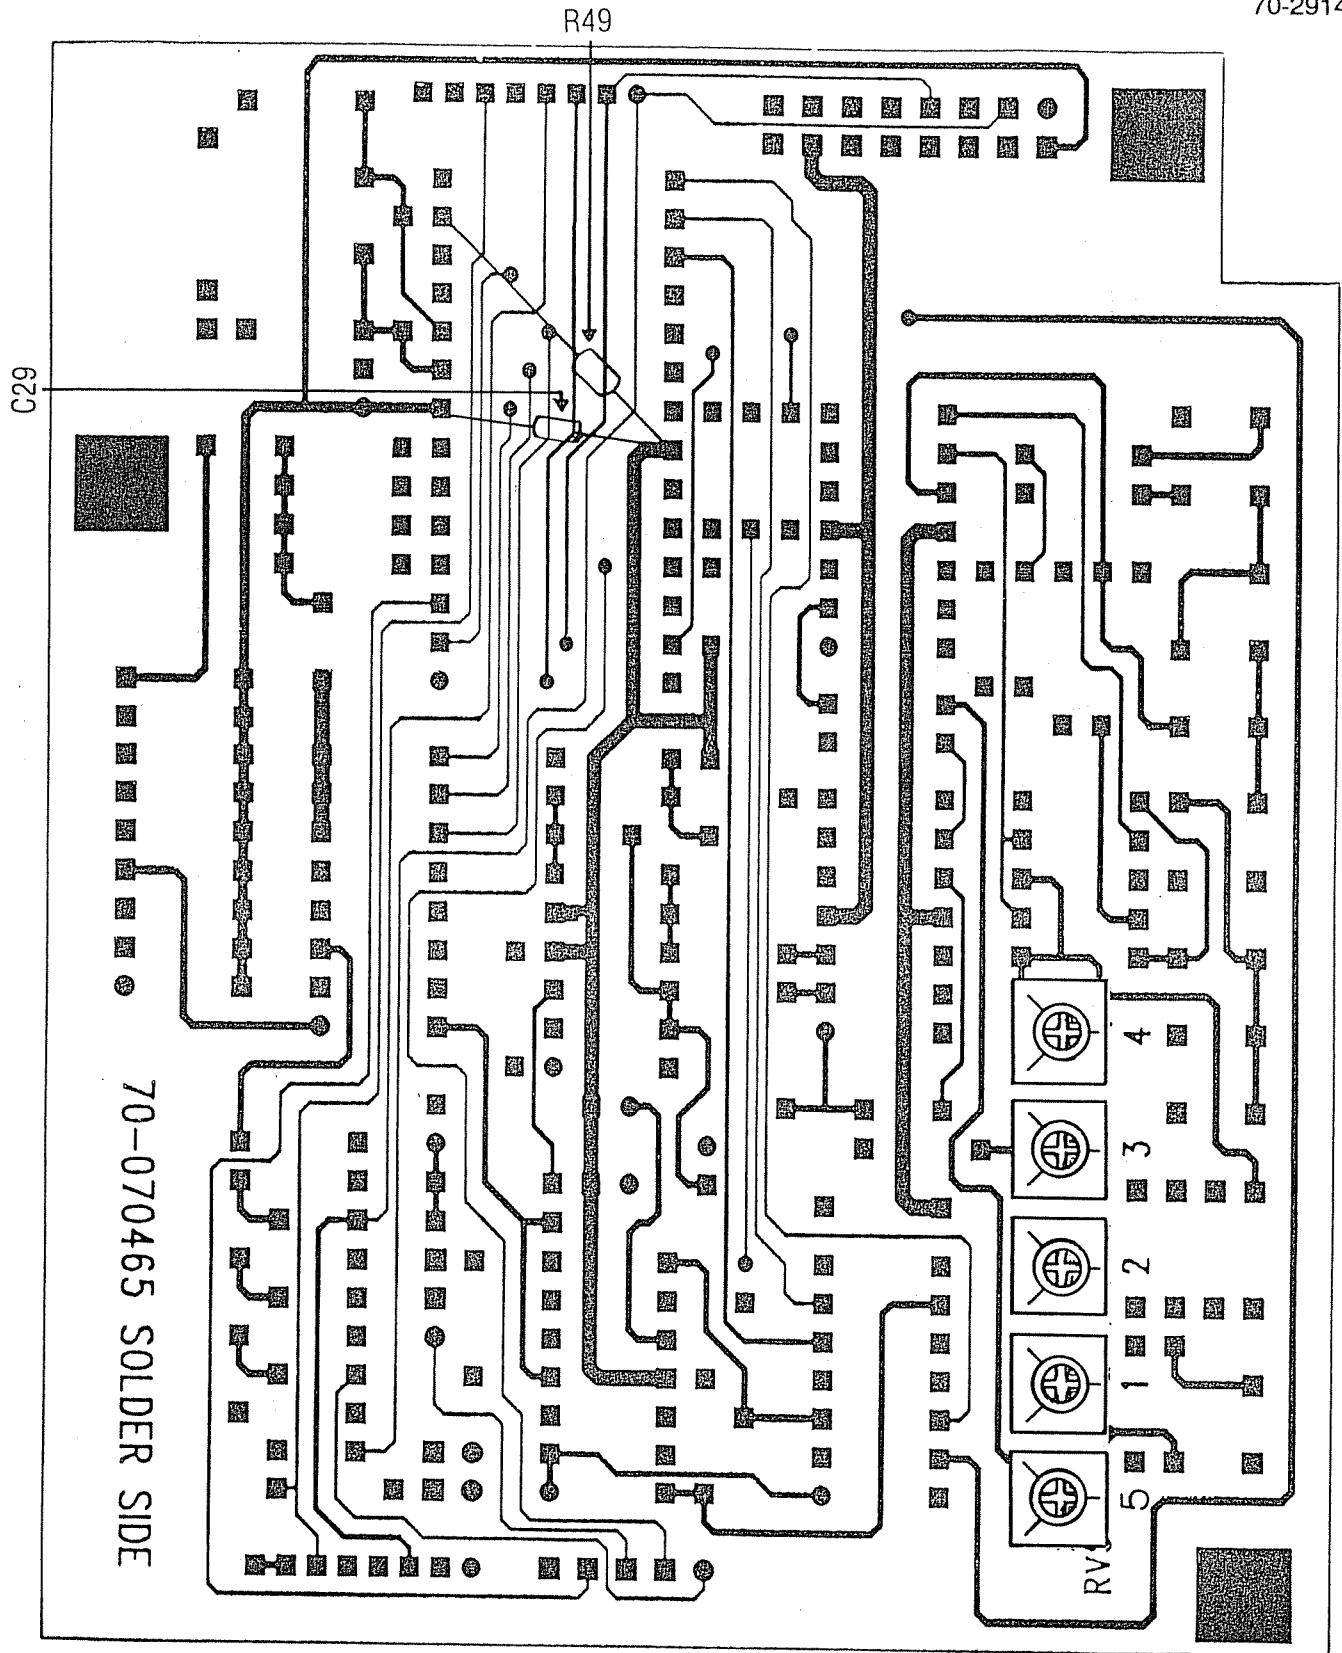

Figure 3
2. Preset all SW1 switches to the positions shown in **Figure 3**.